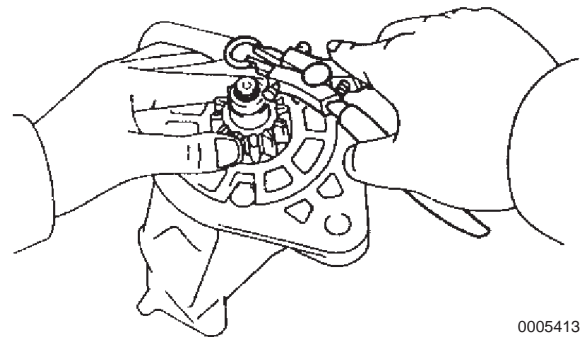

Figure 10-26
6. While pressing down the pinion gear and starter housing, install the new snap ring using snap ring pliers. Check that the snap ring is installed completely in position (**Figure 10-26**).